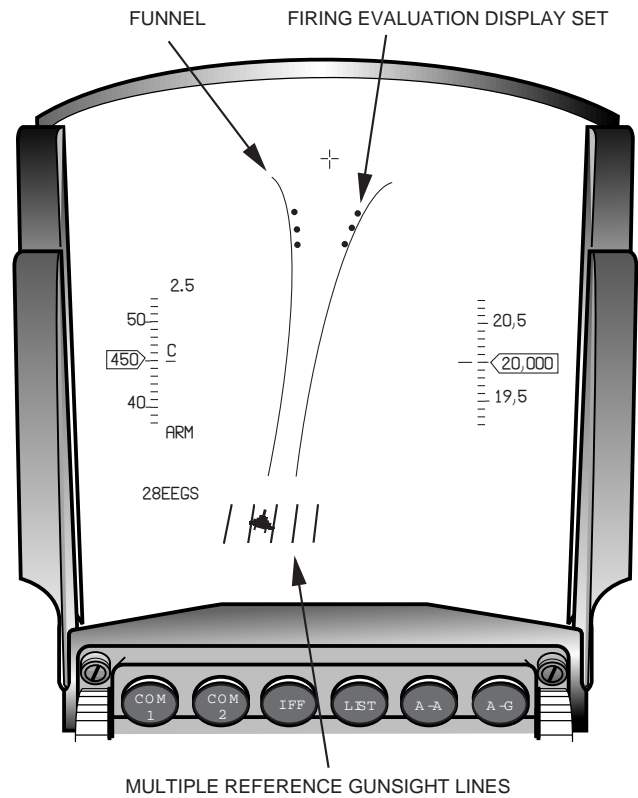

Figure 4-11 EEGS Level II Display With FEDS
**Level II** Level II is a passive mode that provides a sighting solution without a radar lock-on (Figure 4-11). The pilot maneuvers the aircraft to match the target’s plane of motion and to position the EEGS funnel over the target; when the target’s wings touch each side of the funnel, the pilot has an estimated firing solution. Stadiametric passive ranging is accomplished by matching the target’s wingspan (wingspan is set through the Up-Front Controls on the MAN page) to the sides of a displayed funnel. The width of the funnel equals the angle subtended by the target’s wingspan at the corresponding gun range. The bottom of the funnel represents a maximum effective-range shot of approximately 3000 feet and requires the most lead on the target; the top of the funnel represents a minimum-range shot of approximately 600 feet and requires the least lead on the target. In addition to the funnel, the Level II display includes Multiple Reference Gunsight (MRGS) lines. The MRGS lines aid the pilot in maneuvering to place the gun in the target’s plane of motion prior to reaching maximum effective gun range. The lines are near the edge of the HUD and provide a fixed lead-angle used in executing high-aspect (60- to 120-degree) attacks. The gun is correctly aimed at the flight path of the target if one of the lines is on the target and there is no lateral movement of the line. If there is lateral movement of the line across the target, there is a gun-aiming error in the direction of that motion, and the size of that error is proportional to the rate of line motion relative to the target. A training mode, the Firing Evaluation Display Set (FEDS), is available with the Level II sighting solution and provides gun scoring. Scoring is selected on the SMS page with the EEGS gun mode selected. Symbology consists of a series of dot-pairs that can be used to estimate whether the bullets at the target’s range are passing behind the target (dots wider than wingspan), ahead of the target (dots narrower than wingspan) or are hitting the target (equal to wingspan). Each dot pair represents approximately 20 rounds of ammunition.